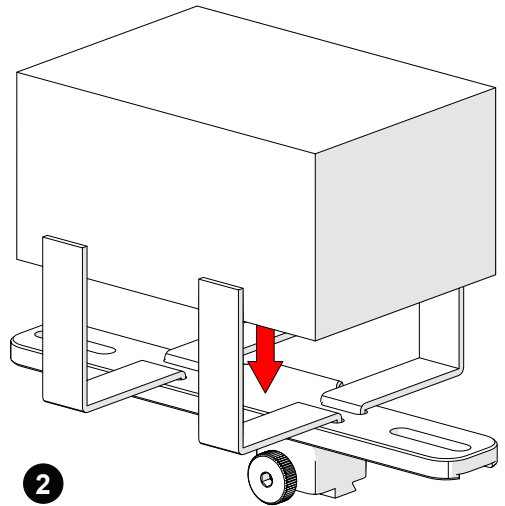

Fig. 74 - Place preamp and wrap velcro
2. Centre and place the preamp on the bracket wrapping the velcro around the preamp (Fig. 74).